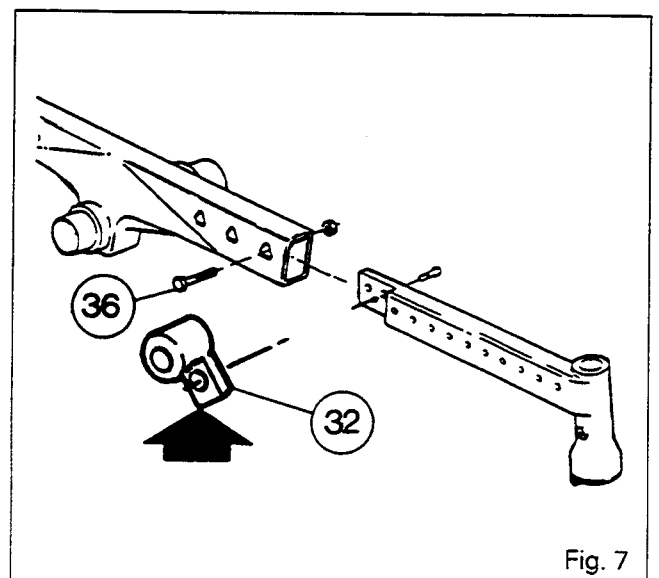

Fig. 7
**Note: When the tractor is used with the widest track, the spacer (32) must be used when fitting the 3rd screw (36) (Fig. 7).**